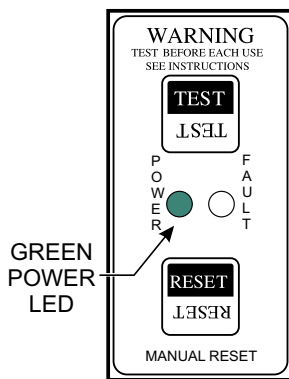

Figure 38. GFCI Module (Green LED ON)
3. On the GFCI module (Figure 38), verify that the **green** POWER LED is **ON**.